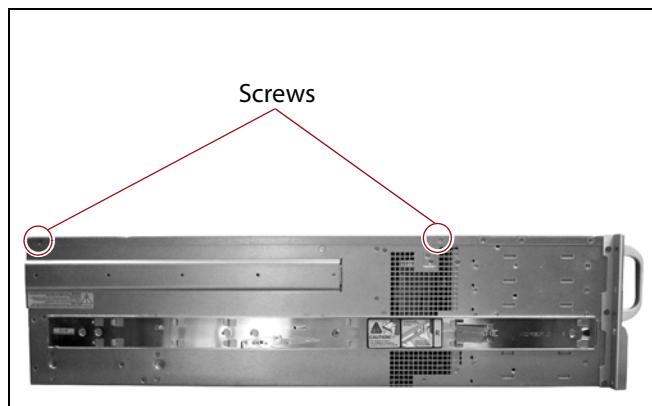
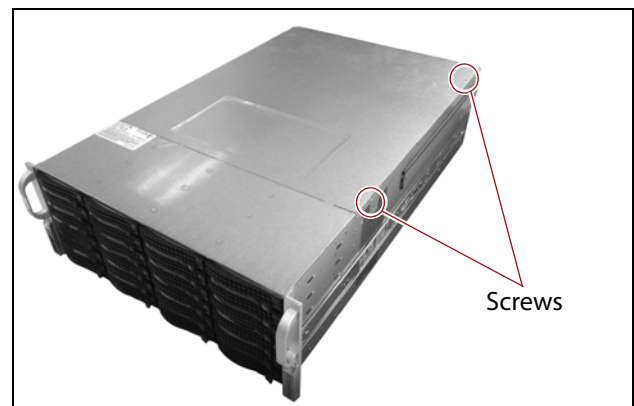

Figure 7 Remove the screws on the left-hand side of the chassis.
Figure 8 Remove the screws on the right-hand side and top of the chassis.
- c. Using a #2 Phillips screwdriver, install the four screws to secure the cover to the chassis (see Figure 7 and Figure 8 on page 29).